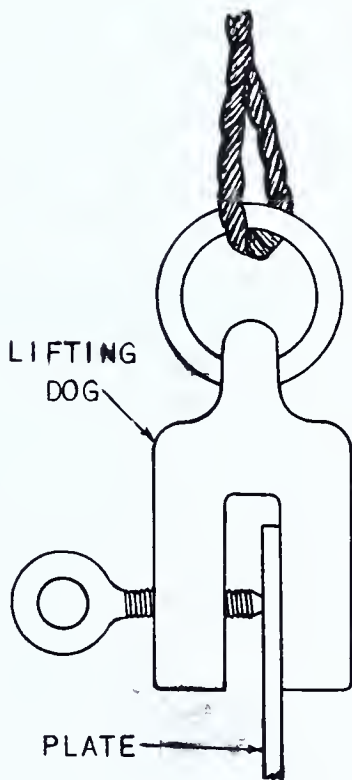

FIG. 175 — *Plate Lifting Dog*
2. Apply the lifting dogs to the plate as shown in Fig. 175.